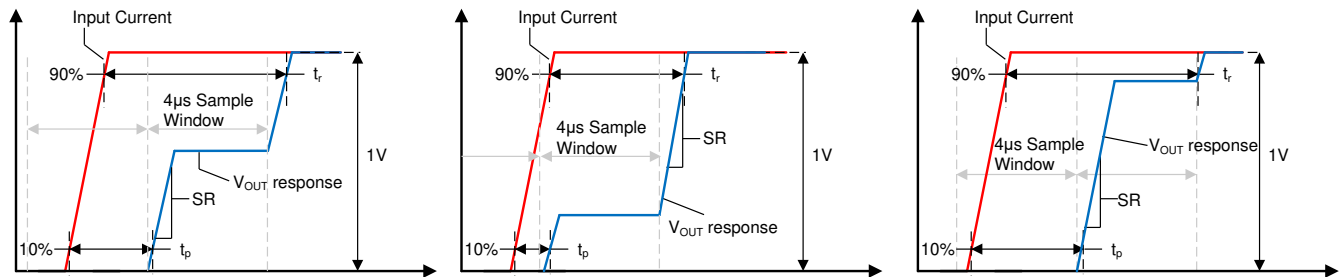

Figure 7-3. Small Current Input Step Transient Response
Slew rate (SR) is defined as the V_{OUT} rate of change for a single integration step output transition, as shown in Figure 7-3. Because the device often requires two sampling windows to reach a full 90% settling of the final value, this slew rate is not equal to the 10%-90% transition time for the full output swing.
Propagation delay is the time period between the input current waveform reaching 10% of the final value and V_{OUT} reaching 10% of the final value. This propagation delay is heavily dependent upon the alignment of the input current step and the sampling period of the TMCS1100-Q1, as shown for several different sampling window cases in Figure 7-3.
Response time is the time period between the input current reaching 90% of the final value and the output reaching 90% of the final value, for an input current step sufficient to cause a 1V transition on the output. Figure 7-3 shows the response time of the TMCS1100-Q1 under three different time cases. Unless a step input occurs directly during the beginning of one sampling interval the response time includes two sampling intervals.